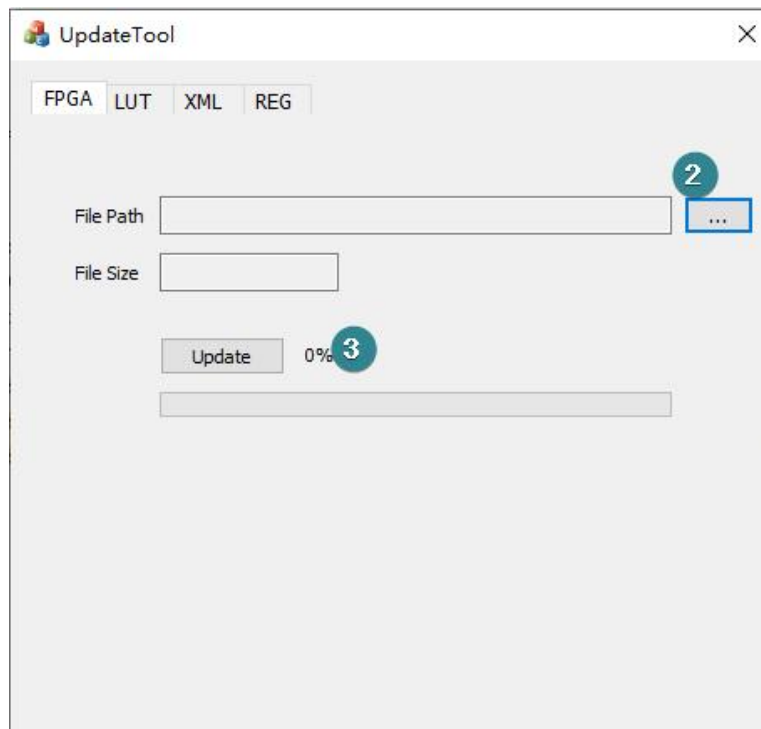

Figure 4-15 UpdateTool interface
- 1) Double-click to run the "UpdateTool" , and the interface is shown in Figure 4-15;